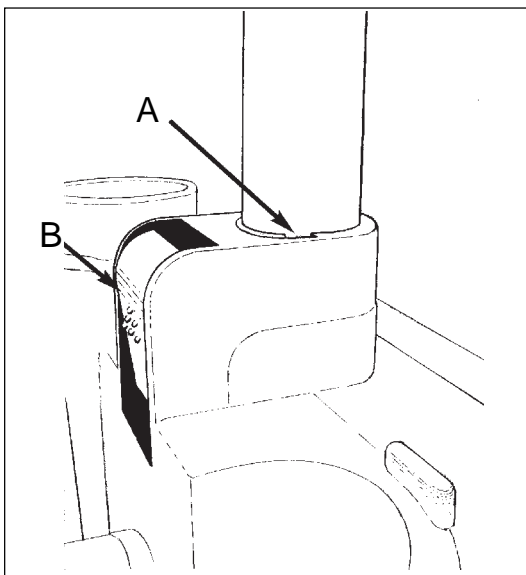

Figure 5
- b. Lower handle completely into canister housing until mark on handle tube is below flush (see figure 5, item A). This insures the handle is properly seated.
- c. Push handle latch into lock position (see figure 5, item B).